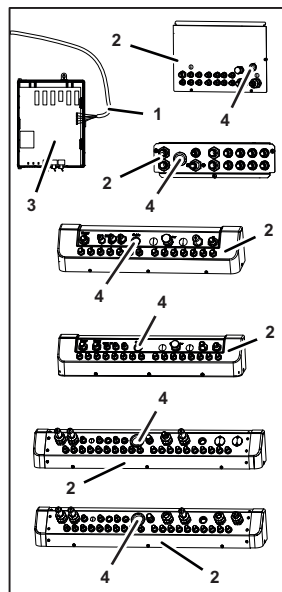

Figure 26
1. Disconnect the electrical cable (Figure 26/1) at control system 1 (Figure 26/3).
2. Pull the electrical cable (Figure 26/1) through the relevant cable port (Figure 26/4) on the relevant connecting plate (Figure 26/2) and out of the unit.